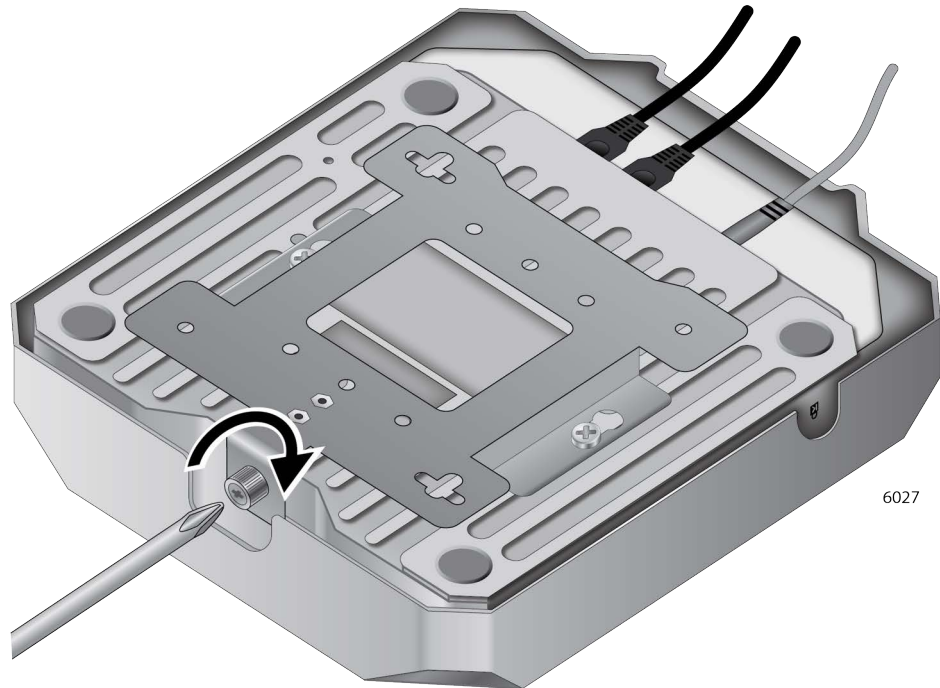

Figure 27. Tightening the Mounting Bracket Thumbscrew
3. Tighten the thumbscrew to secure the access point to the mounting bracket. Refer to Figure 27.